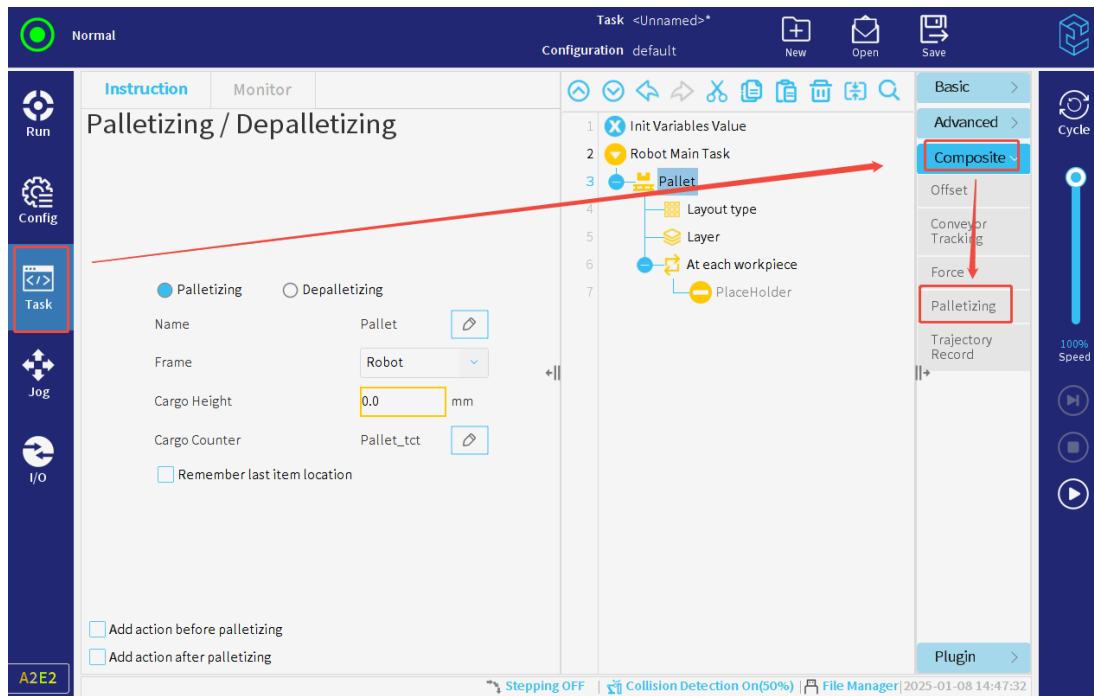

Figure 3-122 : Set palletizing task parameters
2. Set the palletizing task name, frame, and cargo height, as shown in **Figure 3-122**